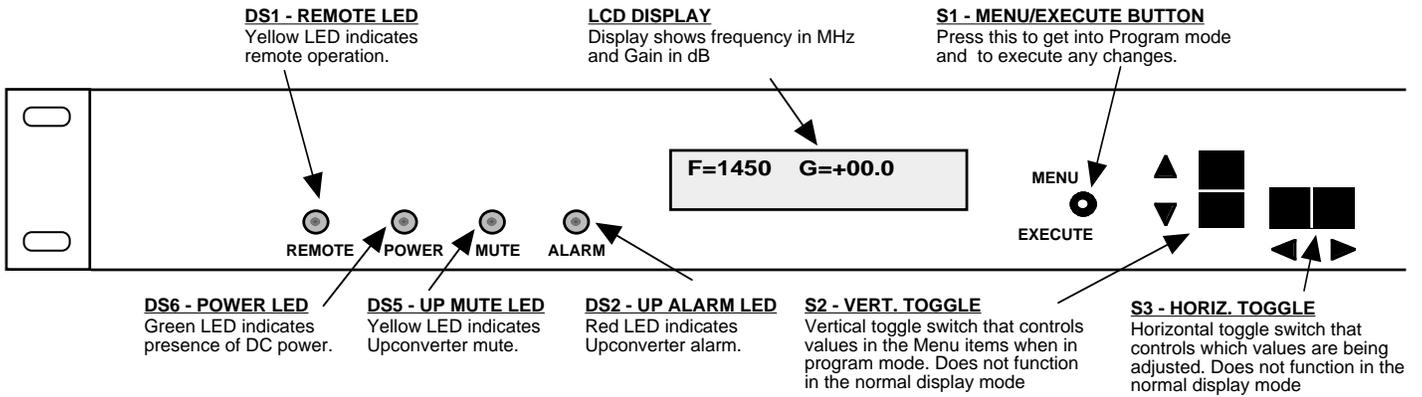

FIGURE 2.2 2015-03U140 Front Panel Controls and Indicators
8. Be sure DS6 (green, DC Power) is on and DS2 (red, Alarm) is off (Figure 2.2).
Alarm indications appear on the LEDs (see figure 2.2).